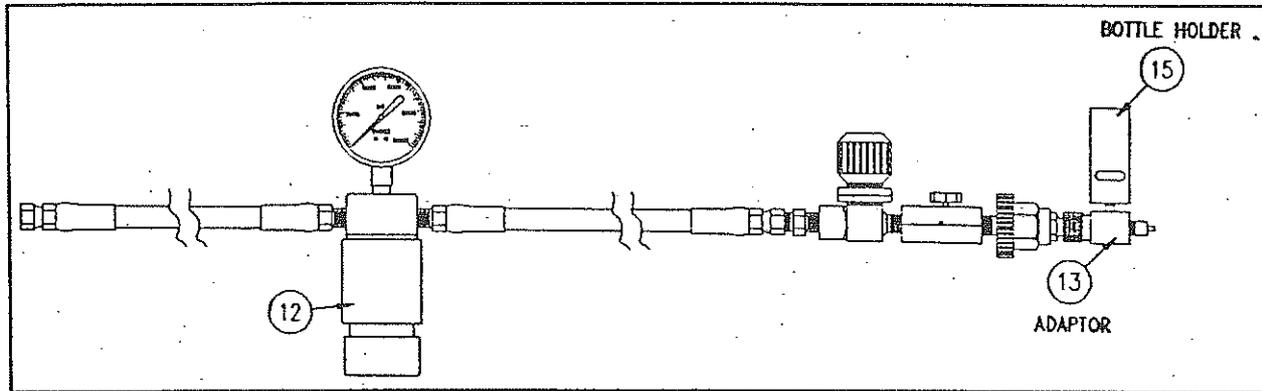

FIGURE 14-6 BOTTLE HOLDER INSTALLATION
- Carefully attach the aluminum bottle holder (15) to the threaded hole on top of the brass adaptor (13) taking care that you do not cross thread the fittings (Figure 14-6).